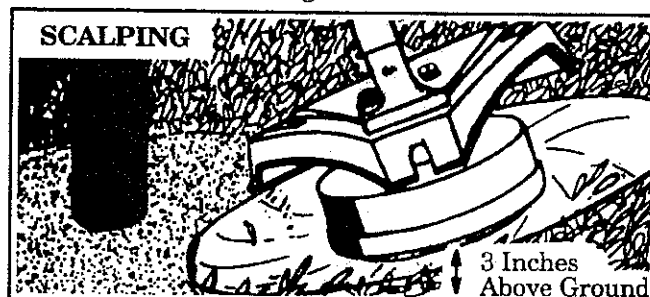

Figure 16
2. **SCALPING** – FIGURE 16. The scalping technique removes unwanted vegetation. Hold the bottom of the trimmer head about 3 inches above the ground and at an angle. Allow tip of line to strike ground around trees, posts, monuments, etc. *This technique increases line wear.*